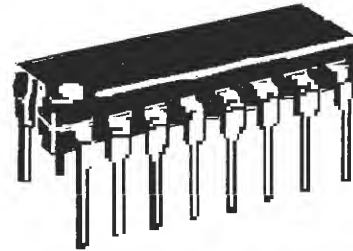

Figure L1-02
*Do not remove the small integrated-circuit (IC) chips shown in Figure L1-02 from their antistatic packaging. They are packed in a special antistatic tube or special sponge material.*